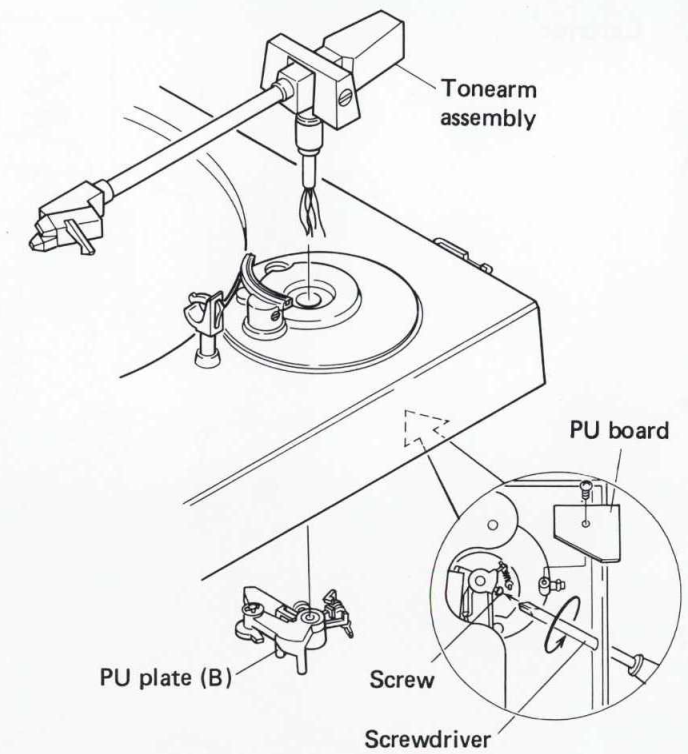

Fig. 3-3 Remove PU plate (B)
2. Insert a slightly long screwdriver into the turntable through the opening on the back of the turntable as shown in Fig. 3-3, and remove the screw used to fix the PU plate (B) assembly.